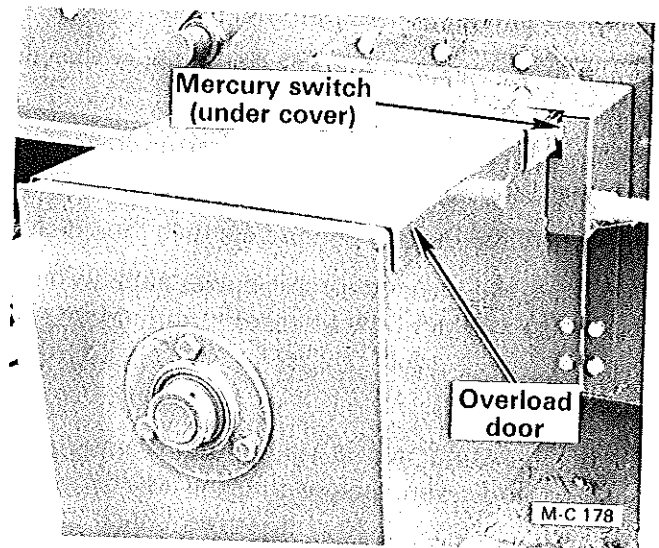

Figure 23
- If the customer supplied grain take away system fails, the dryer will continue to discharge grain until the rear discharge overload door, Figure 23, is raised by the grain.